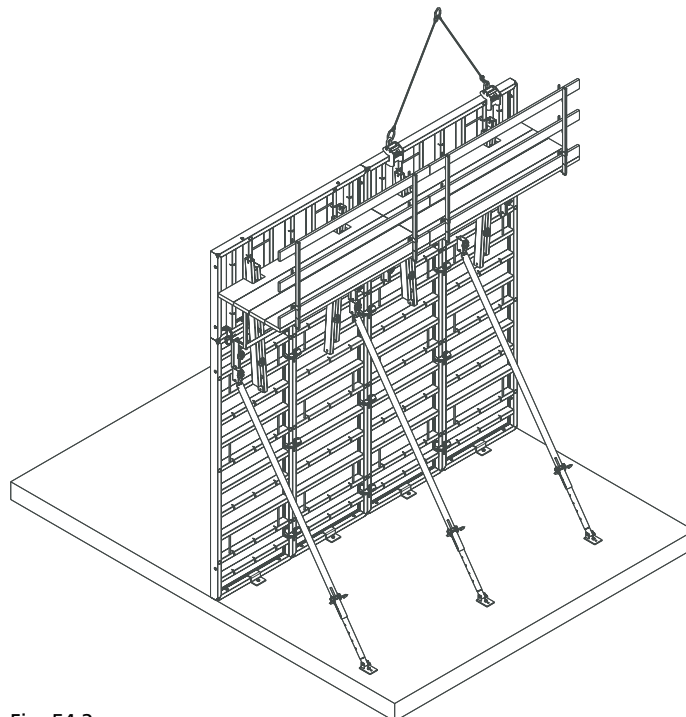

Fig. 54.2
**5.** Proceed with setting the other gangs along the first side (Fig. 54.2).